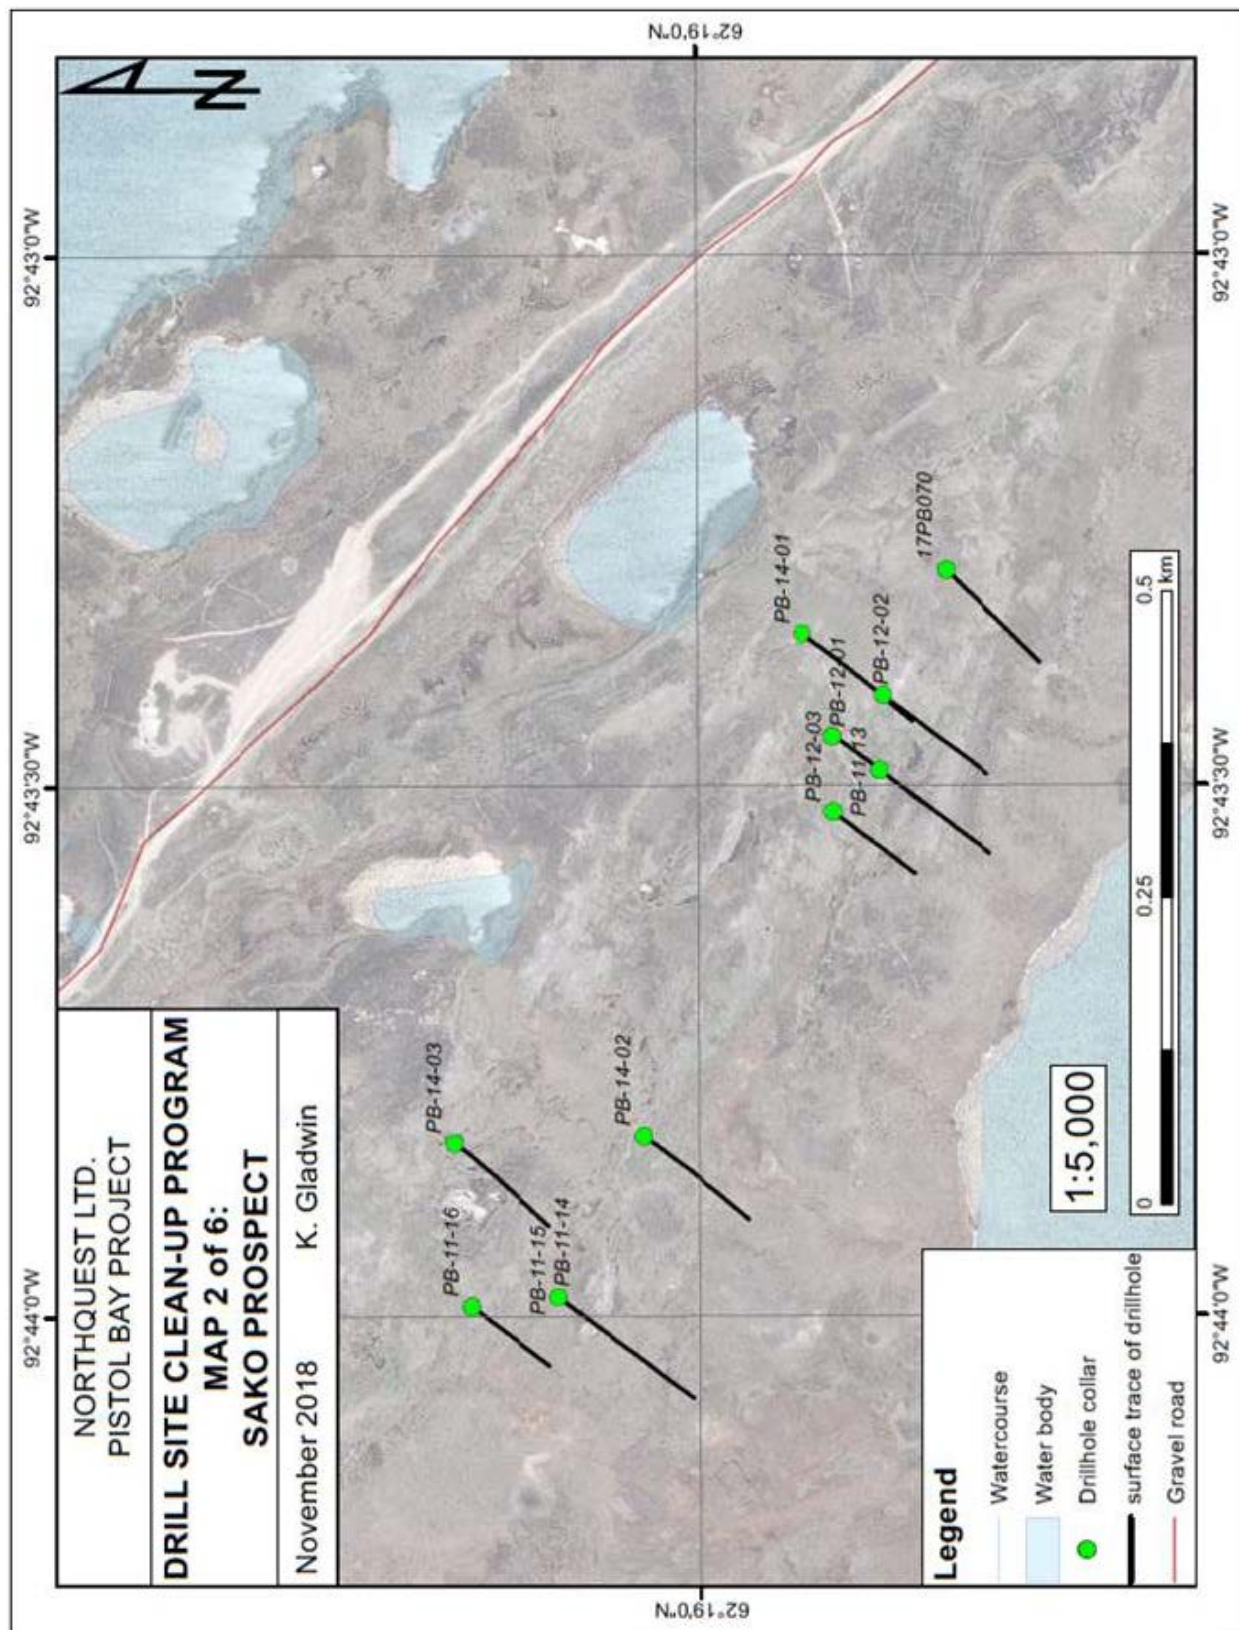

Figure 9. Map illustrating the Sako Prospect drill sites.
- Figure 9. Map illustrating the Sako Prospect drill sites.